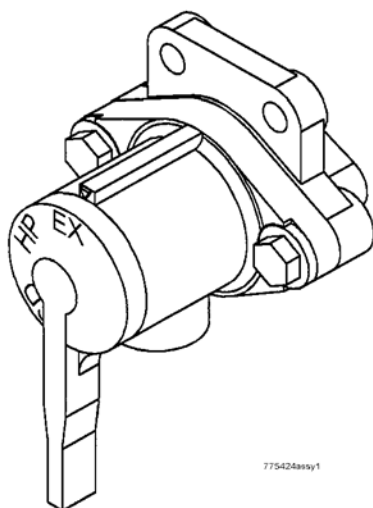

Figure 27: Composite Three Position Retaining Valve
5.9 RETAINING VALVE, Fig. 27 and 28